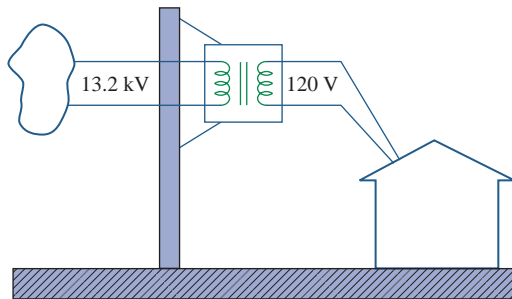

Figure 13.139
13.77 The three-phase system of a town distributes power with a line voltage of 13.2 kV. A pole transformer connected to single wire and ground steps down the high-voltage wire to 120 V rms and serves a house as shown in Fig. 13.139.